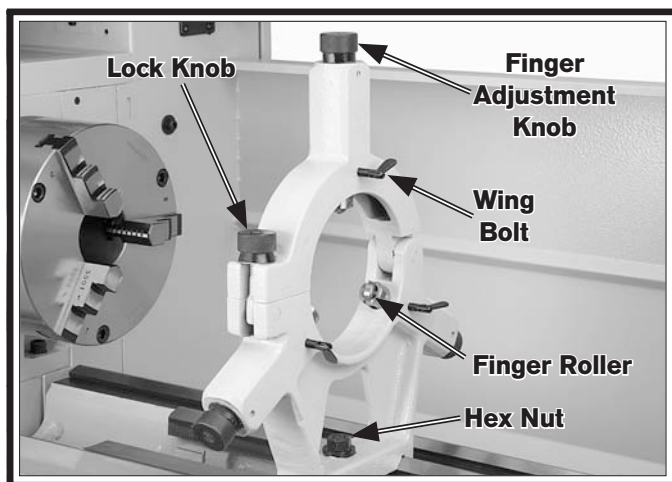

Figure 68. Steady rest components.
3. Position the steady rest where required to properly support the workpiece, then tighten the hex nut shown in **Figure 68** to secure it in place.